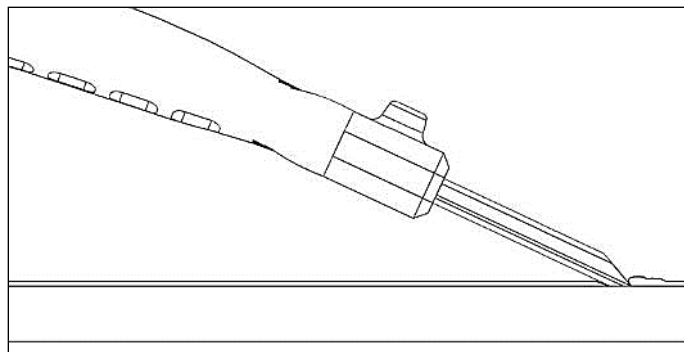

Figure 8. Correct TSB Alignment
- 3.2.3. With the cutting edge of the TSB engaged in the coating, tape or boot material, pivot the handle so the foot of the TSB near the cutting edge is parallel and in contact with the structure surface (25 degree blade angle). Maintain contact pressure on the TSB foot as opposed to its cutting edge so the cutting edge is engaged only in the material being removed. This will reduce wear of the cutting edge. See **Figure 8**.